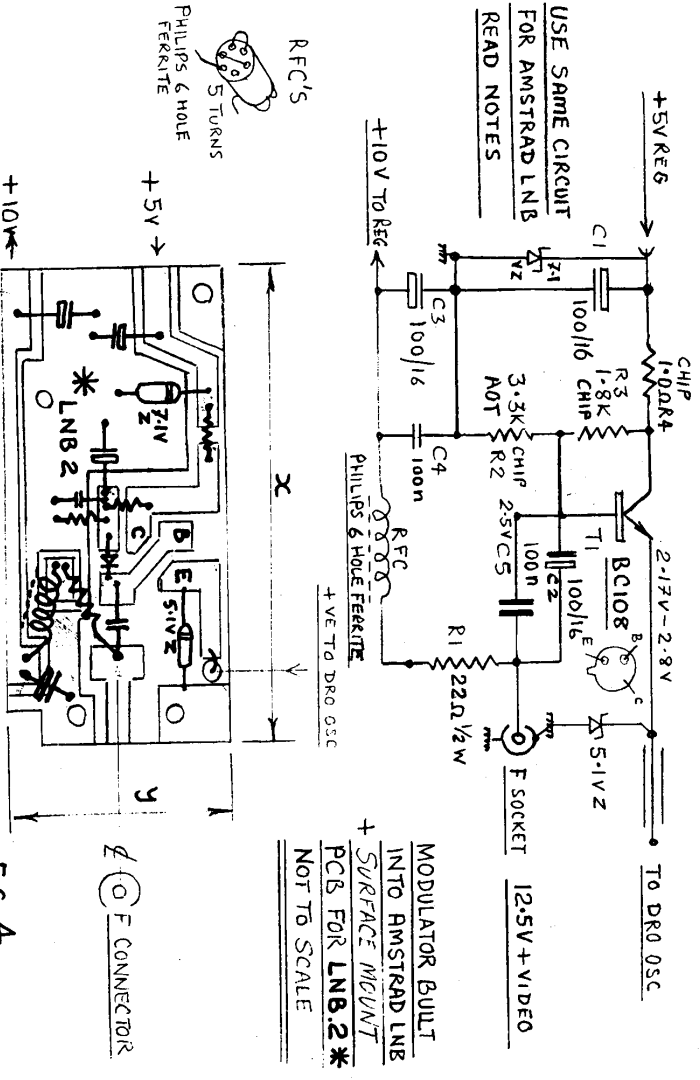

FIG 4
4. Assuming you have been successful in the removal of the components, start making the changes to the gate and drain connections, don't forget to swap and change the values of the resistors in the gate and drain supplies (See figures 4 & 9). Remove the X filter and replace with a strip of foil the same width as the 50 ohm lines (about 1.8mm wide). Remove the mixer diodes and cut the mixer track as shown. Fit the 4.7pF capacitor and the 5.1v zener diode. Build the modulation circuit onto the PCB as shown in figure 9. Check your work in detail, do not fit TRI, TR2 or TR3 yet. With a video input to the test rig, switch on the 12 volts and look for the signal. You should be able to see low definition pictures on your receiver, when you do so it's time to fit the RF stages. Try the first two stages with a chip capacitor in the final stage TRI H. A very strong signal should be present, if all is going well fit the final transistor TRI V. Remove the chip capacitor at TRI H. Replace the die-cast shell with 3 or 4 screws and check the power output. To increase the power out additional copper foils need to be added to the striplines, this can only be done if you have a suitable power meter, a diode detector as fitted to various gunn diode assemblies is quite a good indicator, and will show you any increase in power output relative to what you get. Proceed by setting the local oscillator to 10.250GHz, add the copper foils with the DC off (and the die-cast lid off), put the lid back on each time you test the power output. Also you need to adjust the bias to about -0.35 volts on each device. **Do be careful not to look into the waveguide when switched on.**
Consistent with the correct level at the receiver. RFC's are 6 hole Philips ferrites about 6mm long, wound tight with plain copper wire (inside turns) see figure 4.